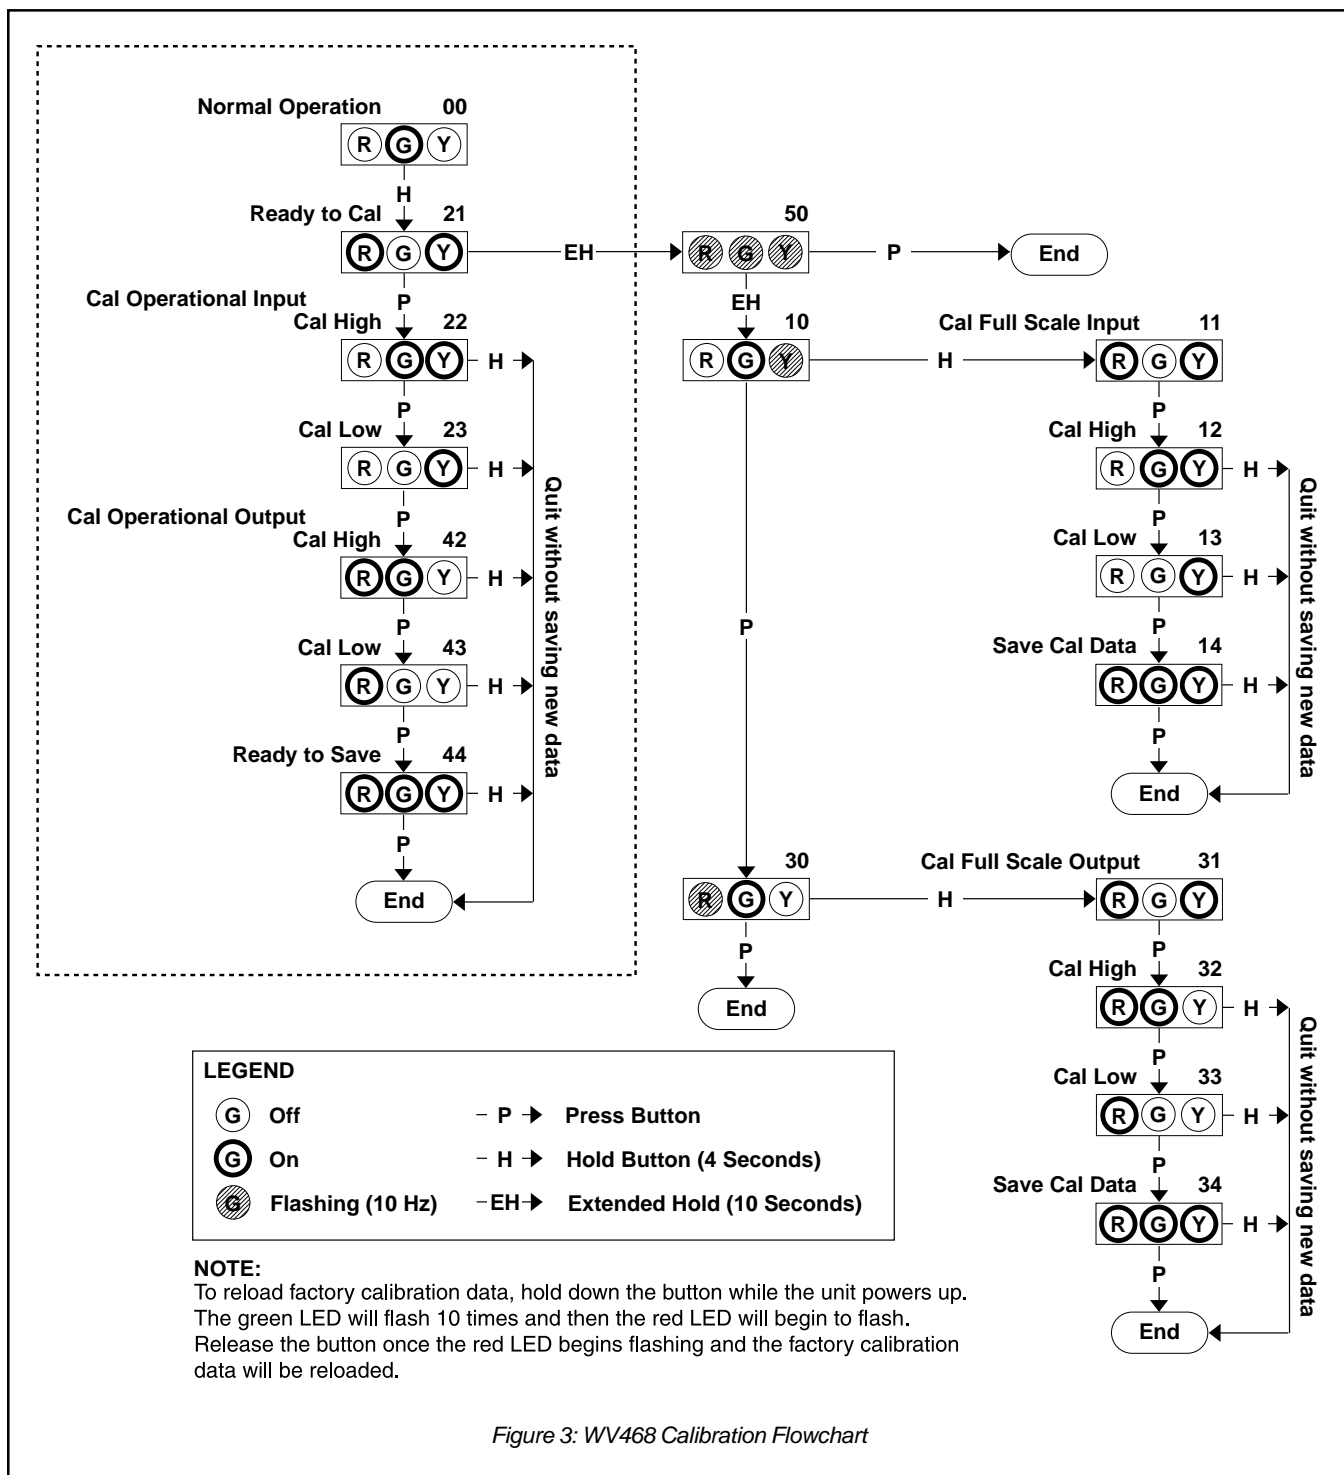

Figure 3: WV468 Calibration Flowchart
1. Connect the input to a calibrated AC source and the output to a voltage or current meter. Apply power and allow the system to reach thermal equilibrium. Refer to Figure 3 for a detailed flow chart of the procedure. The section in the dotted-line box is all that is required for the user to calibrate operational input and output, and is all that is described in this procedure.